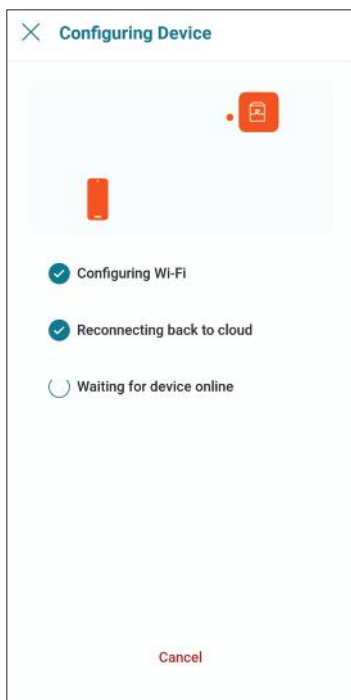

Figure 103. Configuring Device
9. Raymote app will provide the Wi-Fi credentials to your unit. This process may take a few seconds. See Figure 103.